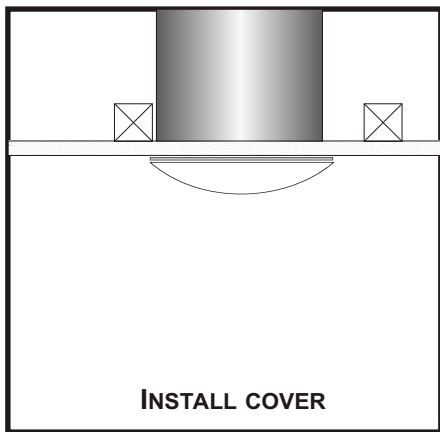

Figure 17
11. Back inside the house. Remove the protective film. Remove the paper back from the metal tape, tearing off pieces about 3 inches long and placing them about 1 1/2 inches in the pipe and taping the pipe to the ceiling, overlapping the tape, make sure the crack between the ceiling and the pipe is completely covered. Remove protective film from the clear plastic disk. Place the clear plastic disk over the end of the pipe as close to the center as possible, make sure one of the holes is lined up under the ceiling joist. Mark the other 3 holes, install the screw anchors in the drywall. Remove the paper back from the white foam seal and place it on the clear plastic disk about 1/4 from edge and over the screw holes (**Fig 16**). Install the clear plastic over the pipe with the 4 one-inch screws, tighten the screw to about one half the thickness of the foam seal. Now place the diffuser on the clear plastic disk (**Fig 17**). Turn the diffuser to lock it in place.